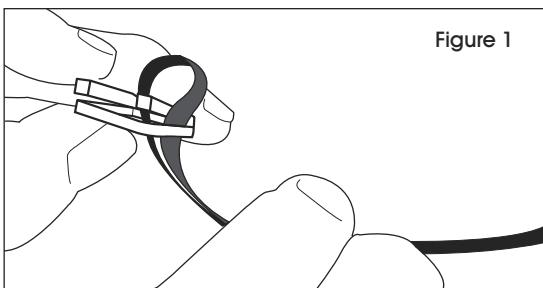

Figure 1
1. Insert end of strapping up through center of the buckle and around open leg to form a loop. Pull top tight around leg. (See Figure 1)
(Voir Figure 1)